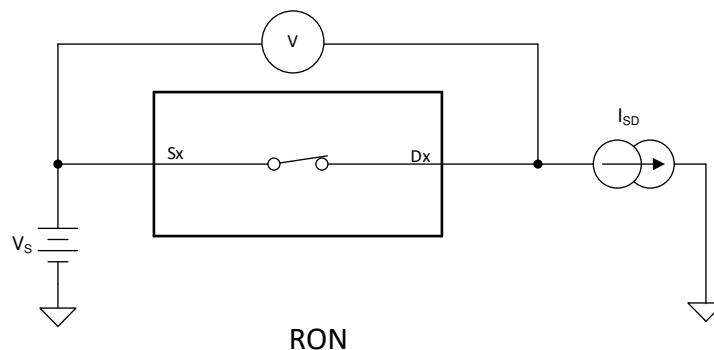

Figure 6-1. On-Resistance
The on-resistance of a device is the ohmic resistance between the source (Sx) and drain (D) pins of the device. The on-resistance varies with input voltage and supply voltage. The symbol R_{ON} is used to denote on-resistance. Figure 6-1 shows the measurement setup used to measure R_{ON} . Voltage (V) and current (I_{SD}) are measured using the following setup, where R_{ON} is computed as $R_{ON} = V / I_{SD}$: